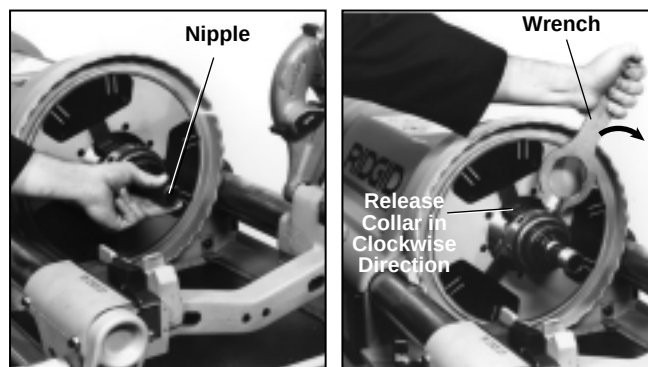

Figure 30 – Installing Unfinished Nipple and Releasing Finished Nipple with Wrench
5. Screw nipple, (Figure 30), threaded on one end, into adapter by hand. Ream and thread other end.
6. Insert pin on end of wrench (Figure 30) into one of holes in nipple chuck release collar and turn. Remove threaded nipple by hand.